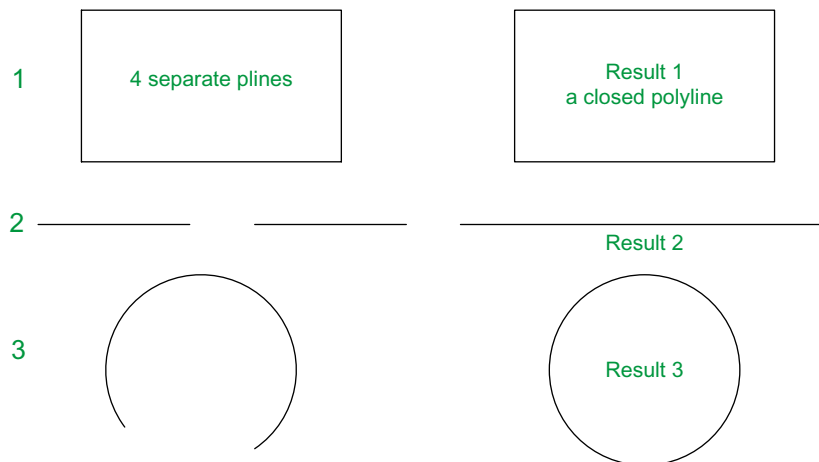

Fig. 5.38 Examples – Join
### Examples – Join (Fig. 5.38)
1. Construct a rectangle from four separate plines – drawing **1** of Fig. 5.38; construct two lines – drawing **2** of Fig. 5.38 and an arc – drawing **3** of Fig. 5.38.
The results are shown in Fig. 5.38.